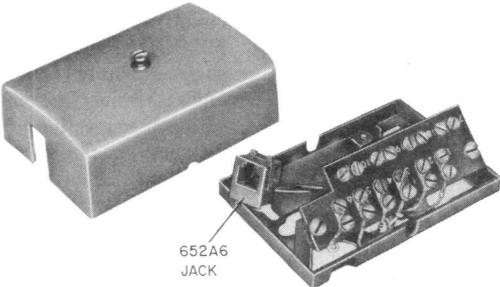

Fig. 1—74D Connecting Block
2.10 USOC RJ18C: Provides a bridged connection of single-line tip and ring and make-busy leads MB/MB1 (Fig. 14). Used where customer requires surface-mounted installation. Requires installation of a 74D connecting block (Fig. 1) or equivalent at location of connection to equipment. Connection to the network should be made per operating company make-busy circuit drawings.
circuit with A lead control and make-busy leads MB/MB1 (Fig. 15). Used where customer requires surface-mounted installation. Requires installation of a 74D connecting block (Fig. 1) or equivalent at location of connection to equipment. Connection to the network should be made per operating company make-busy circuit drawings.